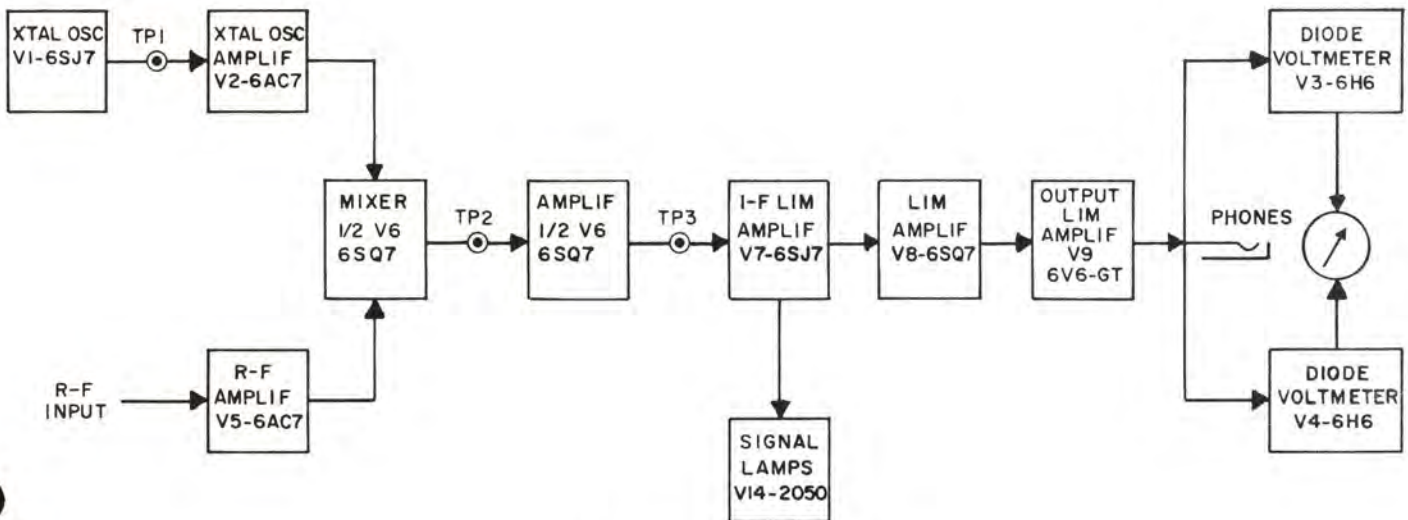

Figure 2. Elementary Block Diagram.
1.2 DESCRIPTION. As shown in the elementary block diagram (Figure 2), the rf signal from the broadcast transmitter is amplified and injected into a mixer, where it is compared with the amplified output of a piezoelectric oscillator set at a frequency 1 kc above or below the transmitter assigned frequency. The output of the mixer will therefore be 1 kc plus or